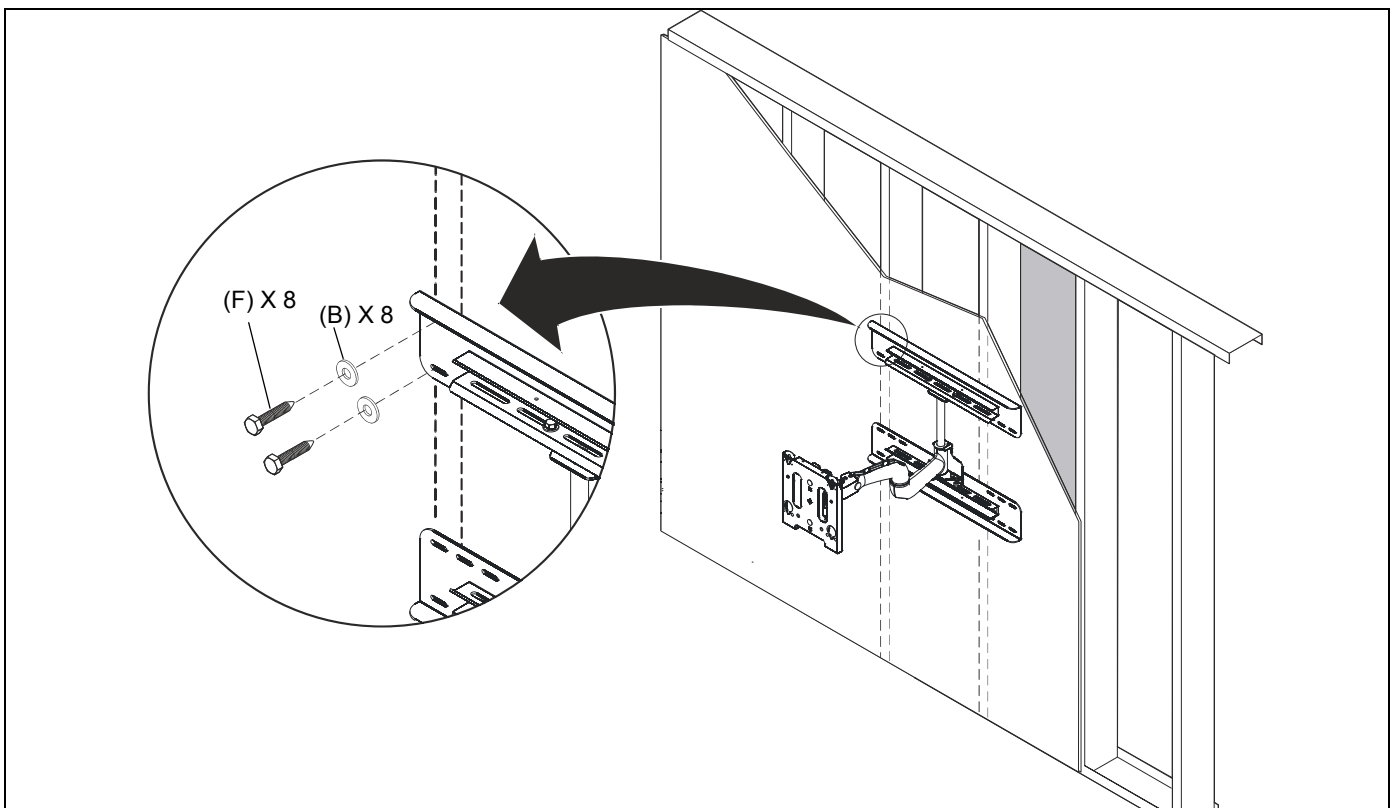

Figure 3
7. Install four 1/4" x 2-1/2" lag bolts (F) and four 1/4" flat washers (B), through upper wall channel and into pilot holes. DO NOT tighten at this time. (See Figure 3)
9. Install four 1/4" x 2-1/2" lag bolts (F) and four 1/4" flat washers (B), through mounting holes in lower wall channel and into pilot holes. (See Figure 3)